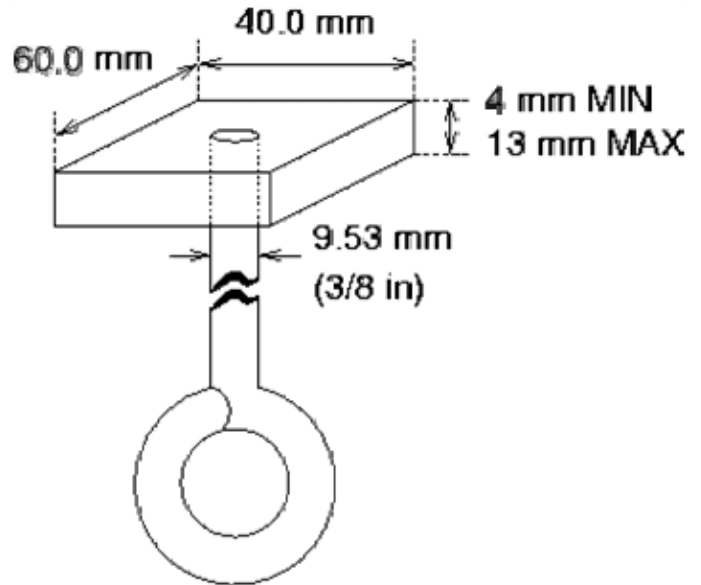

Figure 2. Loading plate detail (not to scale)
- The bridge must be constructed to provide support for the load (see section 3b) at each of the three loading points described. Any portion of the structure below the loading points must provide clearance for the threaded rod of the eyebolt which extends below the loading plate (see Figure 2).
- The bridge will be a railroad type bridge and shall be able to accept loads in the three (3) loading positions, one at the center of the span and two others, located at 50 mm on each side of center, along the longitudinal axis of the bridge.
- The load will be applied by means of a 40 x 60 mm plate that is at least 4 mm but less than 13 mm thick. **This plate will rest solely upon the rails.** A 9.53 mm (3/8 inch) diameter eyebolt is attached from below to the center of the plate (see Figure 2). During loading, the edges of the loading plate will be parallel to the longitudinal axis of the bridge. The load will be applied by means of a loading rod hanging from the eyebolt described above.